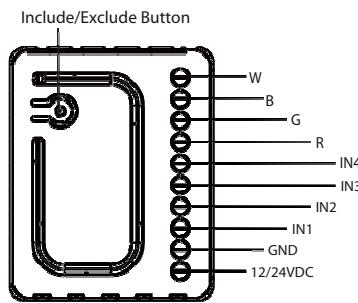

Figure 1. Terminals Description
2. Figure 1. Terminals Description.